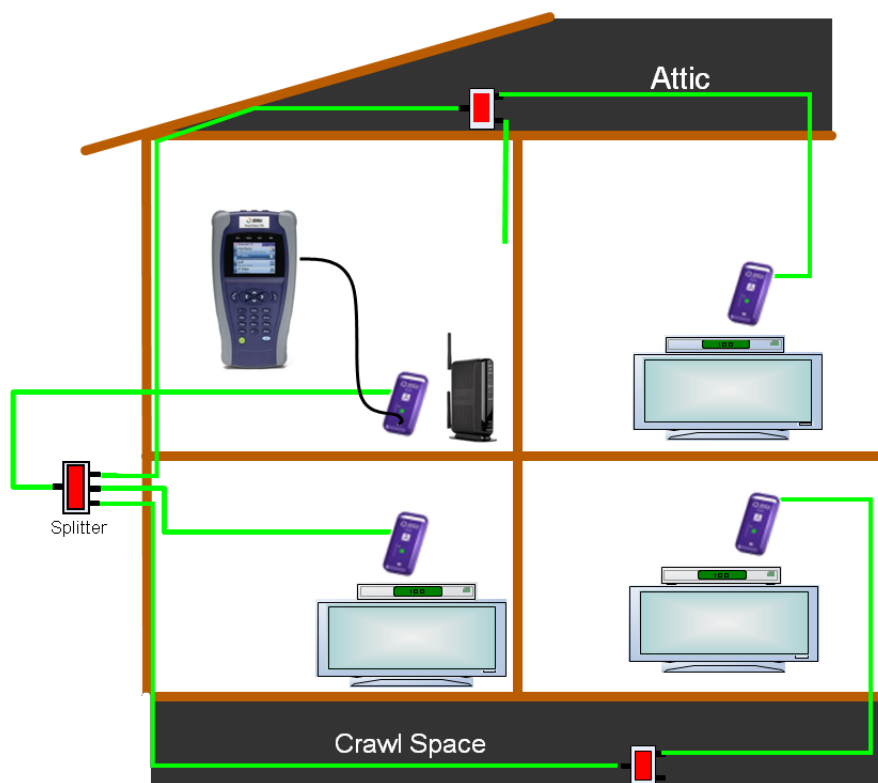

Figure 15 SmartID connection
The SmartIDs (Figure 14) allow a technician to connect the <product name> directly to any single SmartID device which then communicates with any other connected SmartID devices in order to certify an in-home network and provide distances to found impairments. See Figure 15.
- 1 Connect SmartIDs to the network at any location in the home where network qualification or troubleshooting is desired, such as set top boxes or residential gateways (see Figure 15 for examples).